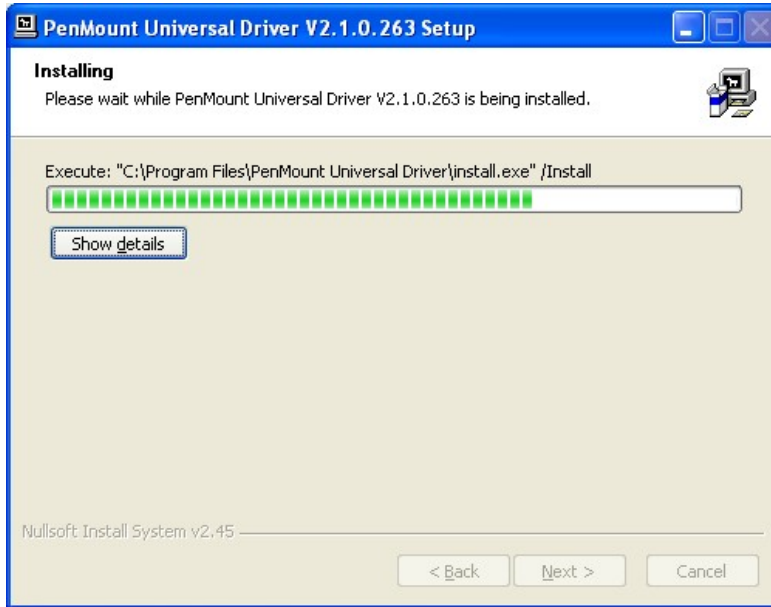

Figure 5-24: Touch Screen Driver Installation Screen
Step 10: The **Install** screen appears and displays the progress of the installation (Figure 5-24).